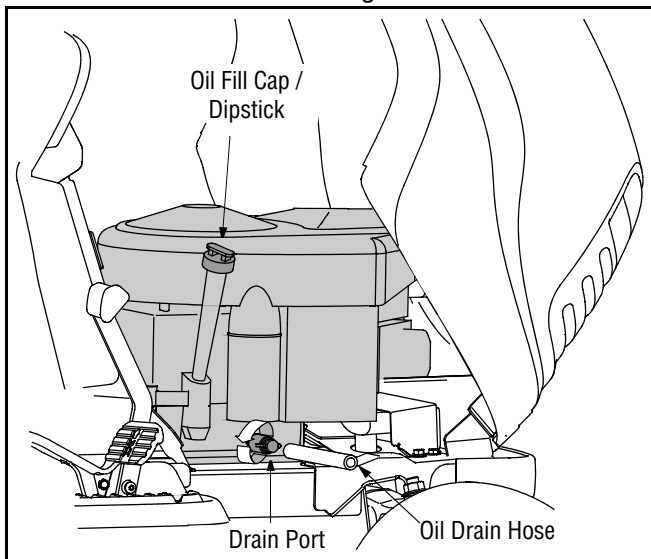

Figure 12
- Unscrew the oil fill cap and remove the dipstick from the oil fill tube. See Figure 12.
- Pop open the protective cap on the end of the oil drain valve to expose the drain port. See Figure 12.